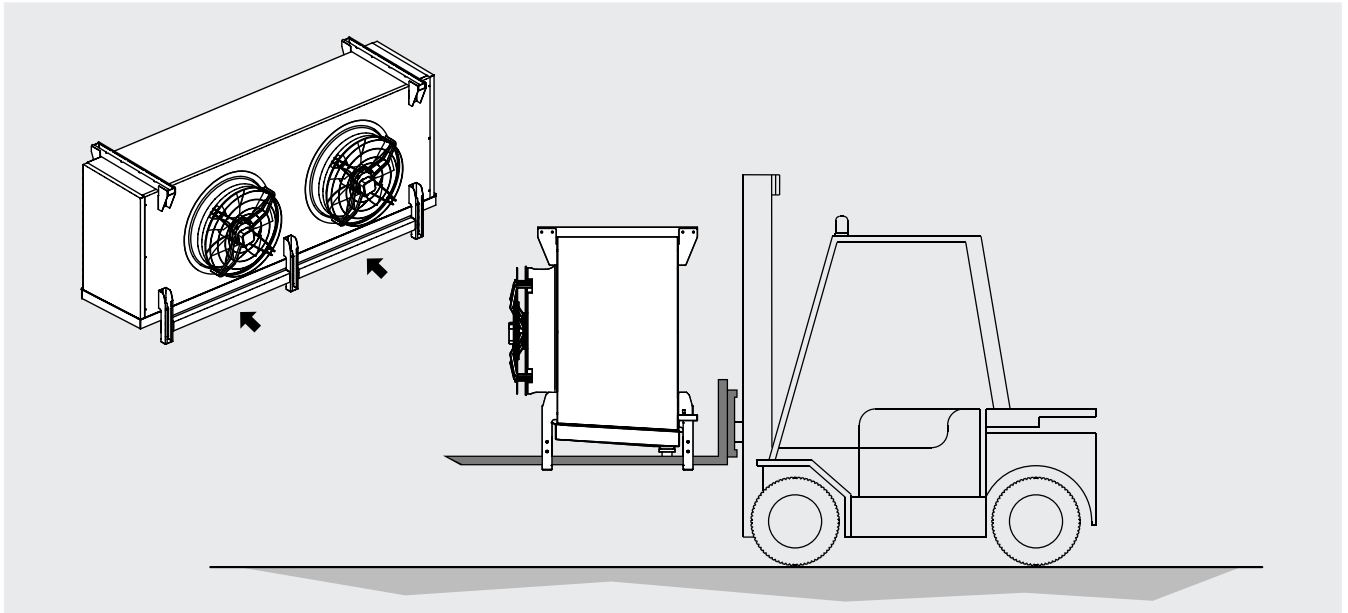

Figure 3
- 5.11 The Ø630 and Ø800 models can be equipped with crosspieces on the support legs suitable for lifting with the forks of a forklift. See Figure 3.